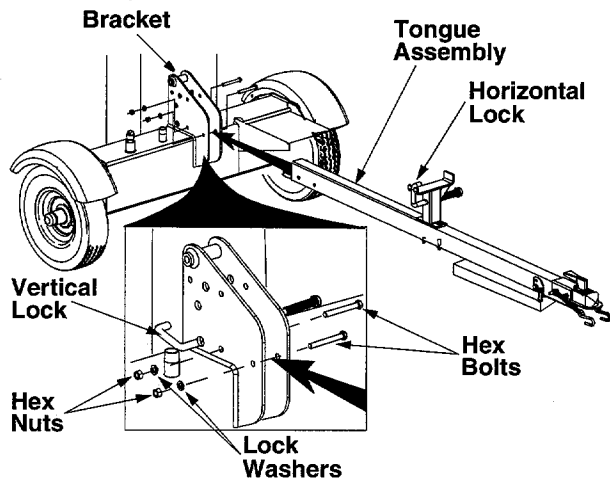

Figure 3
4. Remove the two bolts, lock washers and hex nuts that secure the tongue assembly to the beam assembly. Unlock the two beam locks by pulling out on the beam locks and pivoting them down. Remove the tongue assembly. See Figure 3.
5. Place the end of the tongue assembly in between the brackets on the wheel and reservoir tank assembly. Secure with hardware just removed and tighten to 23 ft-lbs. See Figure 3.